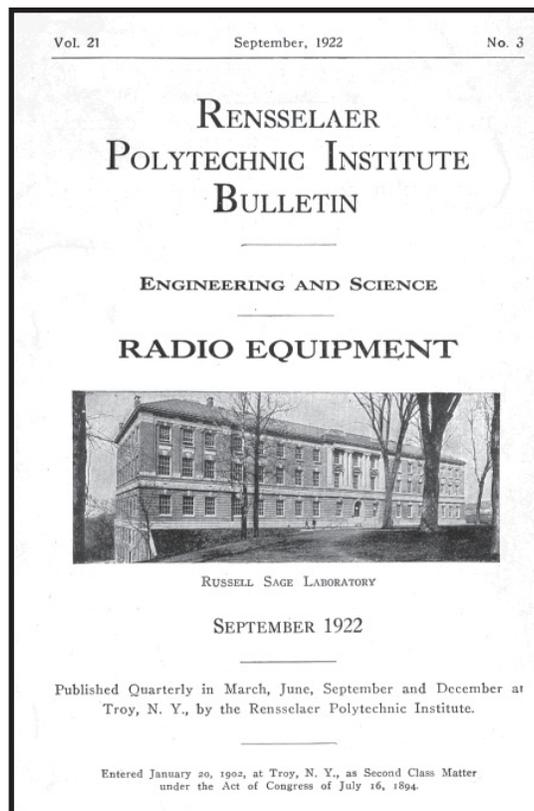

FIG. 1. INTERIOR OF STUDIO
**Studio** - Figure 1 shows a corner of the studio. This room has received special acoustical treatment. The ceiling is covered with a thick layer of felt. One inch below this felt, suspended from the ceiling, is a perforated oil cloth covering. Sound waves passing through the holes in the oil cloth are quickly absorbed by the felt. The floor is covered with a heavily padded carpet. The treatment given the walls is somewhat different from that in the ordinary studio. The heavy curtains of friar cloth covering the walls are movable, thus permitting acoustical research and allowing the studio director a means of varying the amount of reverberation produced by the walls for different kinds of musical selections. A Steinway Duo-Art Reproducing piano and a Victrola are used for testing purposes. No mechanical instruments are used in the regular scheduled programs.
In the center of the photograph (Fig. 1) is shown a sensitive microphone which is used to pick up the sounds produced in the studio and transform them into feeble electric currents which are carried by wires to the amplifier in the operating room (Fig. 2). This microphone, mounted in a casing which minimizes the effect of mechanical vibration that might affect the clarity of the reproduced sounds, is designed to insure faithful reproduction of every gradation of tone of speech or music which is to be transmitted, and may be operated by talking close up or from a distance of several feet.
**Speech Amplifier-**Figure 2 shows a general view of the broadcasting section of the operating room. The wires from the microphone in the studio (Fig. 1) are connected to the speech amplifier which can be seen at the right of the operator's desk. This three stage amplifier increases the magnitude of the currents which it receives many thousand times and has been very carefully designed so that it can provide this tremendous increase of energy without any distortion of the original sound wave. The operator can manipulate this amplifier so that a proper amount of energy is produced no matter how loud or how soft the sounds in the studio may be. A loud speaker horn mounted next to the amplifier permits the operator to listen in while he is transmitting and thus determine the strength and quality of the signals sent to the radio transmitter.